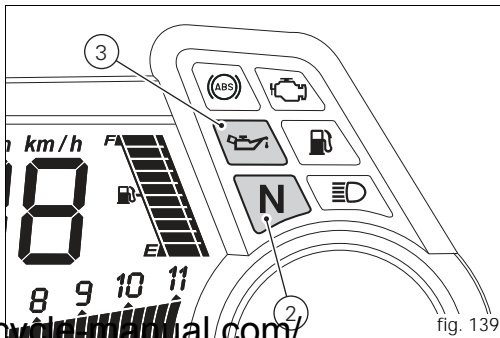

fig. 139
The instrument panel will perform the initialisation and will control the onboard systems, turning on all lights in sequence, from the bottom to the top, for a few seconds. After this control, only the green light (2, fig. 139) and the red light  (3) must remain on.